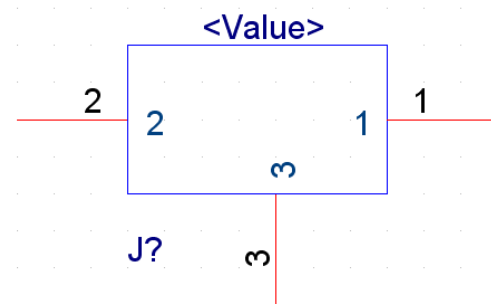

Figure 3.6: 9V Power Plug Symbol
- Draw the symbol as in Steps 10 – 14 (**See Figure 3.6**)